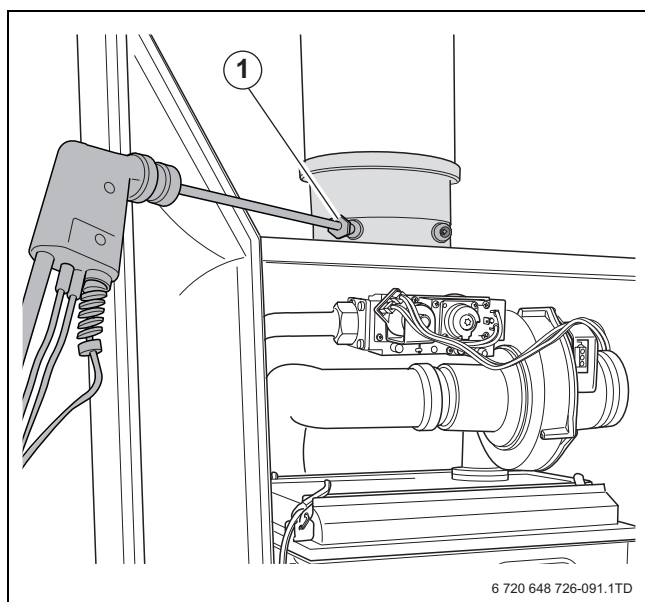

Fig. 91 Measuring the gas supply pressure
- ▶ Measure the carbon monoxide content at the flue gas measuring point (→ fig. 91).
- ▶ Remove the flue gas analyser and fit the cover back onto the flue gas measuring point (→ fig. 91, [1]).